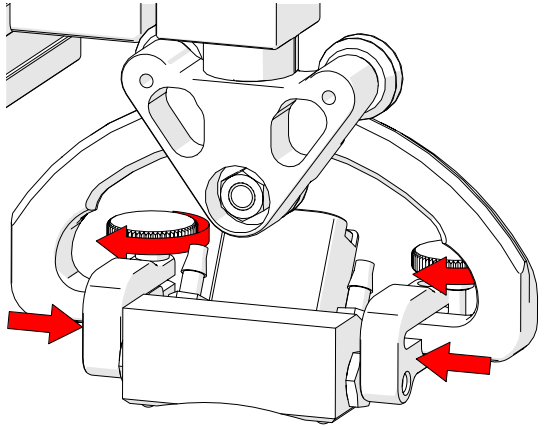

Fig. 209 - Clamp probe with arms and tighten knobs
6. Move the probe holder arms and insert the pivot buttons into the probes pivot button holes while maintaining the probes alignment relative to the yoke's pivot (*Fig. 209*).
7. Tighten the two probe holder arm adjustment knobs (*Fig. 209*).